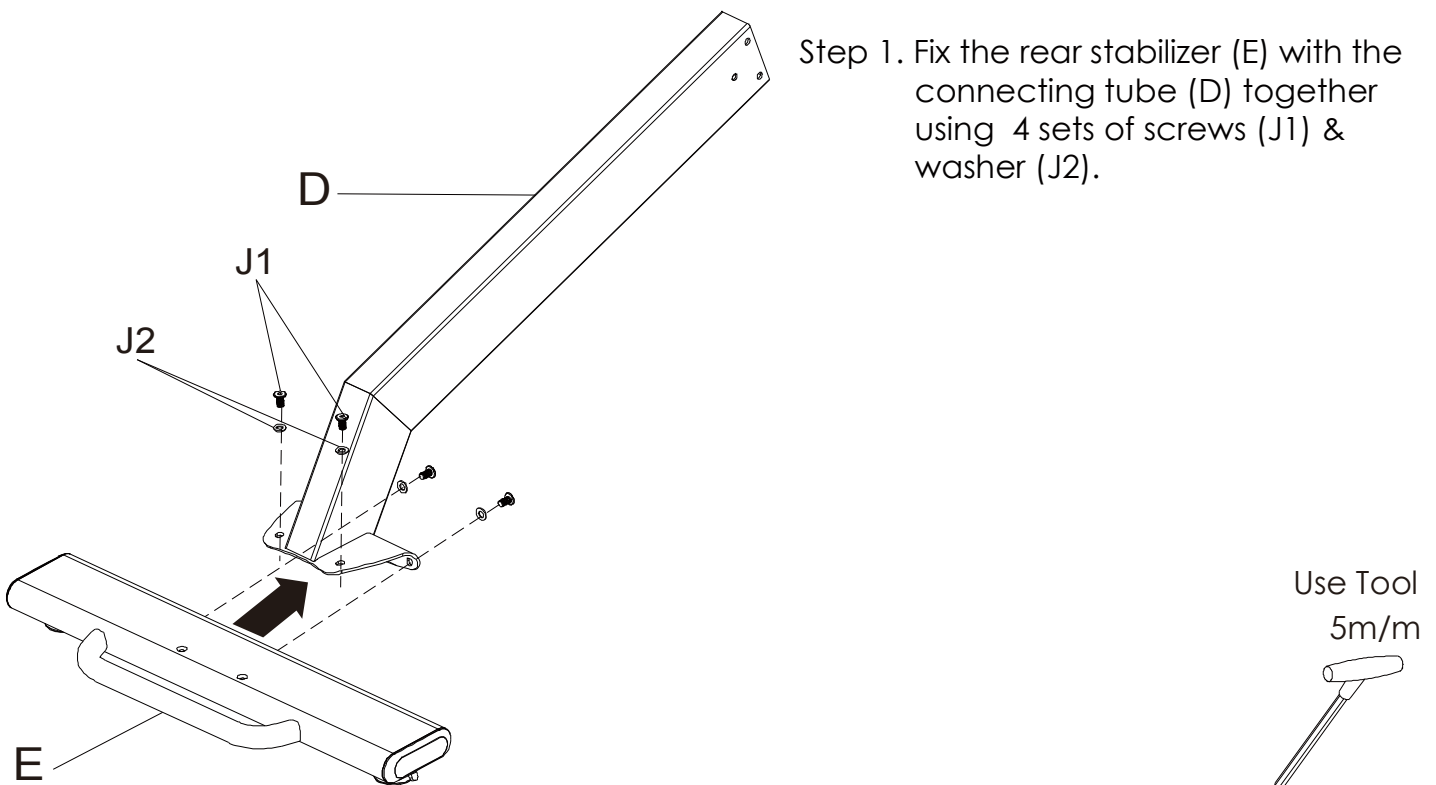

FIGURE 3 — **CONNECTING TUBE (D&E) AND MAIN FRAME ASSEMBLY**
- Step 1. Raise the main frame (A) by 2 people and then remove the Polyfoam (#4) as the diagram shown.
- Step 2. Fix the connecting tube (D&E) onto the main frame (A) by using 7 sets of screws (J1) , spring washer (J16) ,and washer (J2).
- Step 3. Tighten all the screws (J1) in Figure 1 to Figure 3.